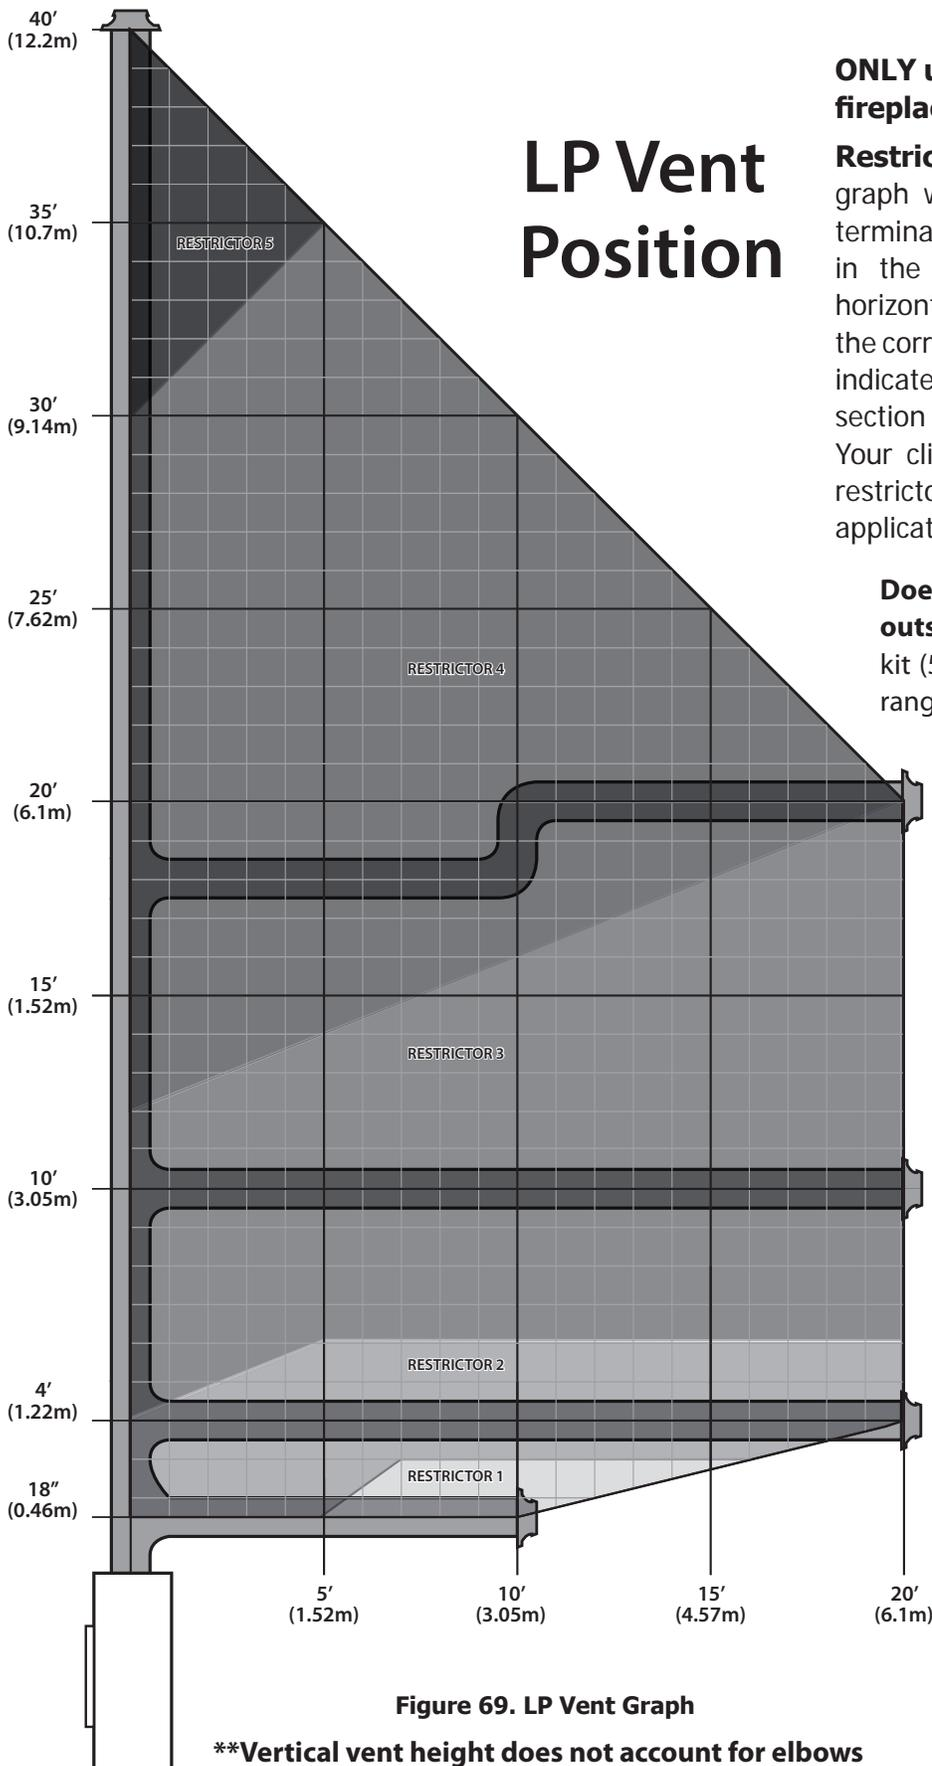

Figure 69. LP Vent Graph
**Table 7: Minimum 'H' for Figure 69.**